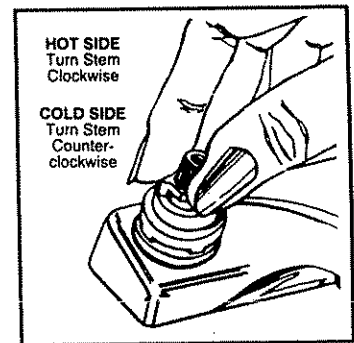

Figure 1
6. Loosen the stem and bonnet assembly (H) with a crescent wrench by turning it COUNTER-CLOCKWISE and remove it by simply lifting off with your fingers. For HOT SIDE repeat same as cold side.
9. To re-assemble COLD SIDE turn the stem (G) CLOCKWISE to a fully open position. For the HOT SIDE turn the stem (G) COUNTERCLOCKWISE to a fully open position.
10. Screw in the stem and bonnet assembly (H) finger tight.
11. Snug up the stem and bonnet assembly (H) with a crescent wrench. You will notice four slots (I) on the bonnet (J). Turn the stem and bonnet assembly (H) until these slots show white rather than chrome. Do not overtighten.
12. Turn the COLD SIDE stem (G) COUNTERCLOCKWISE to a fully closed position (see Figure 1). Turn HOT SIDE stem (G) CLOCKWISE to a fully closed position (see Figure 1).
13. Place the faucet stop (E) in the slots (I) with the raised part (D) at the 12 o'clock position. This should snap into place. If it does not, you do not have the slots properly aligned as instructed in step 11. Re-align.